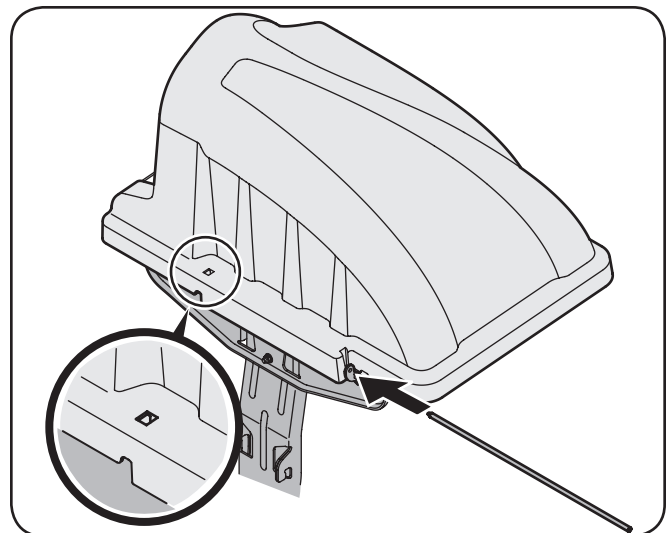
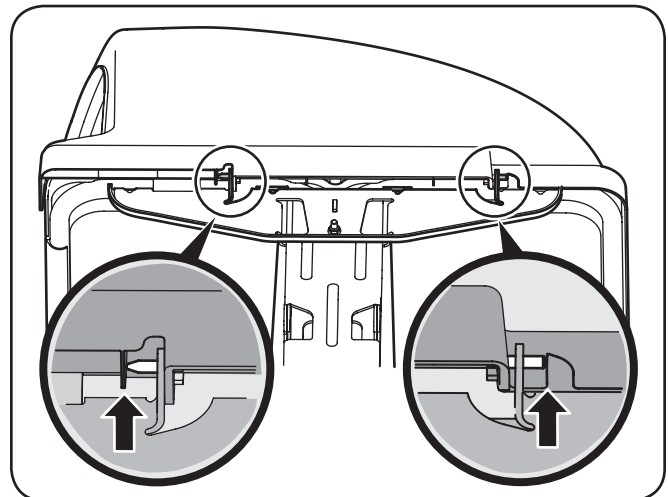

Figure 4-10
Figure 4-11
12. Slide the hinge pin into the hole located on the mounting tab, as in Figure 4-10. Use the cut-out window (See inset in Figure 4-10) to line up the hinge pin on the other side and push pin all the way in until it reaches the end-stop. At this point the pin clips into place and is secured by a tab in the bagger cover. See Figure 4-11.